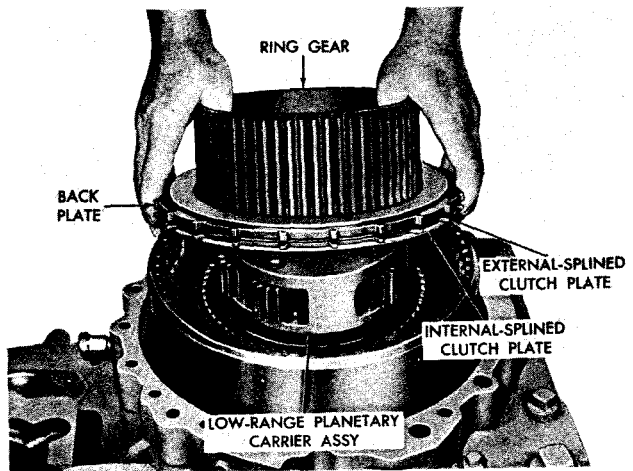

Fig. 5-36. Removing low-range planetary ring gear (-3 underdrive model)
(2) Remove the low-range ring gear, back plate, two internal-splined clutch plates and one external-tanged clutch plate as a unit (fig. 5-36). Remove the low-range planetary carrier assembly. Refer to paragraph 6-14 for rebuild of the planetary carrier assembly. Remove the two remaining clutch plates.